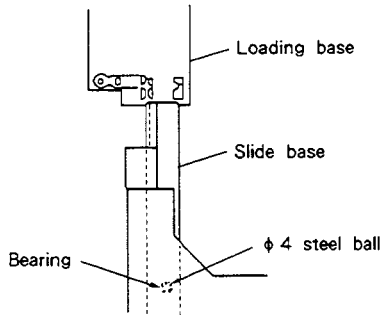
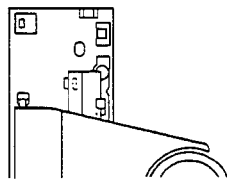

Fig. 9-9
Fig. 9-10
<p>Re-mount the disc tray according to the following procedure when the grating adjustment is complete.</p> <ol style="list-style-type: none"> <li>1. Remove the disc and the spacer.</li> <li>2. While lifting the clamp holder [marked ⑧ in Fig. 9-4] with the right hand, hold the tray in the left hand as indicated by ⑨ and slide the slide base into the hard resin fittings on the loading base as shown in Fig. 9-9 to re-insert the disc tray. At this time, be sure to hold the steel ball in place with the index finger of the left hand. Also, be careful that the front panel is not damaged by the slide base and steel ball's bearing (in the slide base) coming into contact with the panel.</li> <li>3. Insert the slide base so that it fits into the two hard resin fittings at the rear of the loading base (see Fig. 9-10).</li> <li>4. Insert the tray tightly.</li> </ol>